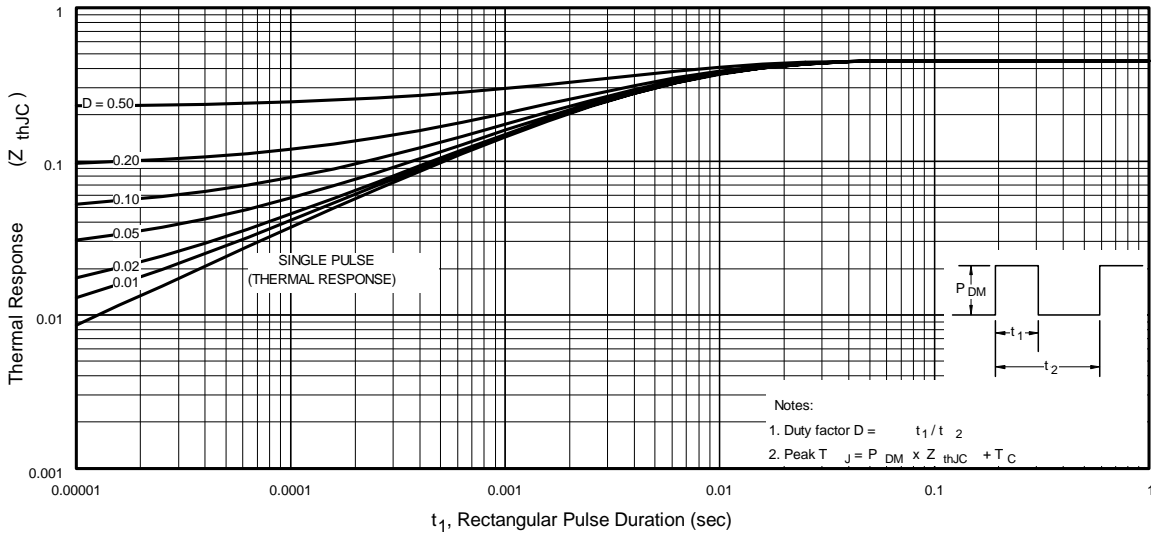

Fig 11. Maximum Effective Transient Thermal Impedance, Junction-to-Case
$Z_{thJC}(D, t_{av})$ = Transient thermal resistance, see figure 11)
- ① Repetitive rating; pulse width limited by max. junction temperature. (See fig. 11).
- ② Starting $T_J = 25^\circ\text{C}$, $L = 0.06\text{mH}$